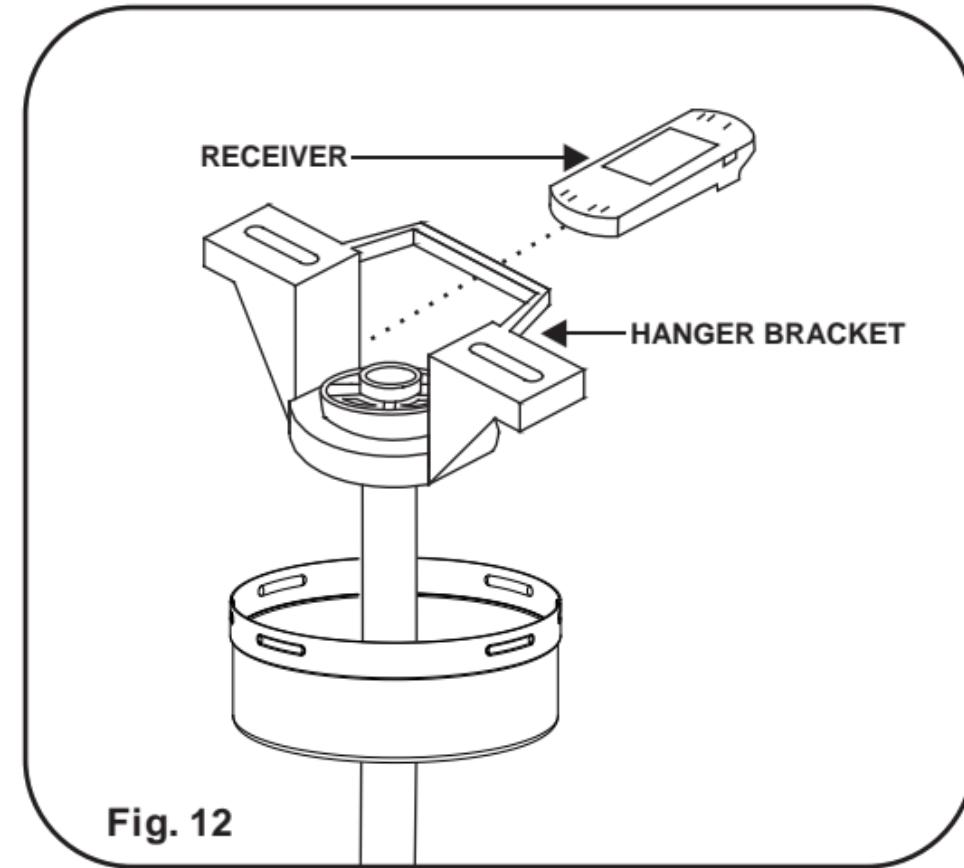

Fig. 12
Step 1. Insert Receiver into Hanger Bracket with the flat side of the Receiver facing the ceiling. (Fig. 12)